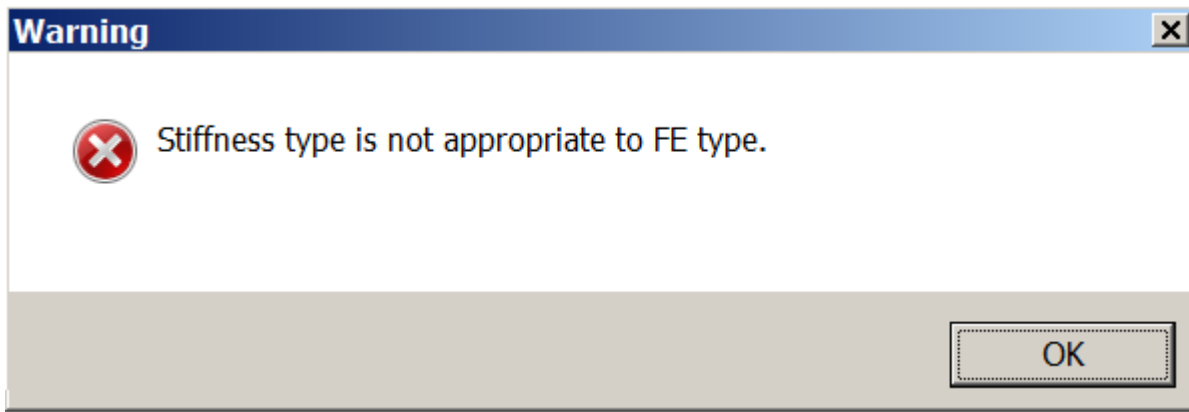

Figure 22.6 Warning dialog box
- ⇒ The **Warning** box is displayed (see Fig.22.6). Click **OK**.